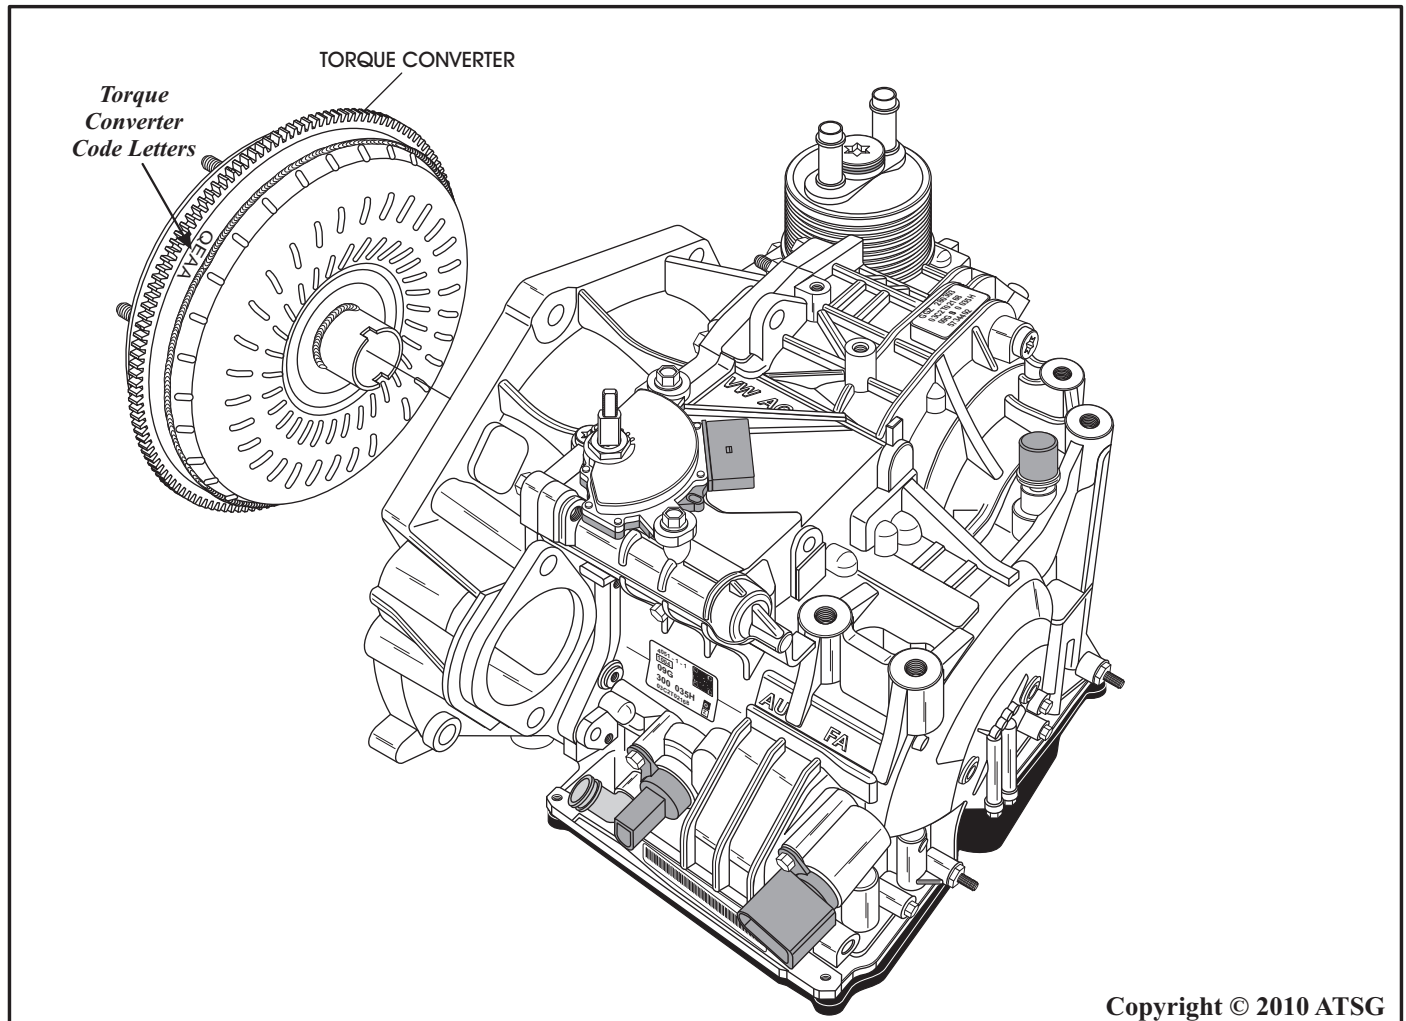

Figure 50
3. Remove the torque converter from transaxle, as shown in Figure 50.
4. Record the torque converter code letters, as shown in Figure 50, for future reference.